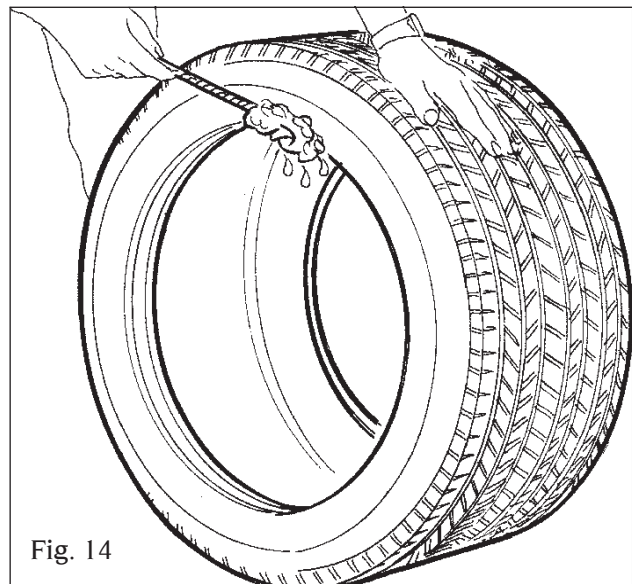

Fig. 14
- Apply a liberal amount of tire manufacturer approved rubber lubricant to both beads before attempting the mounting operation (Fig.14). Lubricated beads require much less force to mount/seat and are protected against torsional damage.